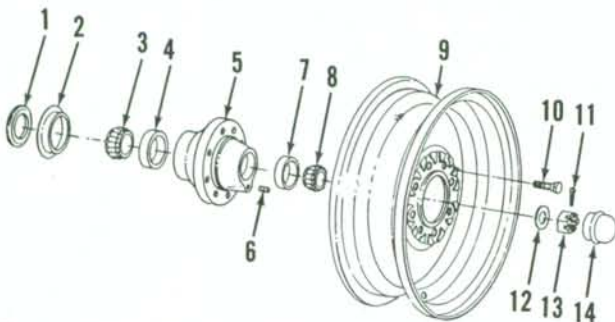

Fig. 1—Exploded view of front wheel hub, bearings and relative components.
**1. REMOVE AND REINSTALL.** To remove front wheel hub and bearings, remove cap (14—Fig. 1). Raise and support under axle extension. Remove cotter pin (11), slotted nut (13), washer (12) and bearing cone (8). Remove wheel and hub assembly, bearing cone (3) and oil seal (1) from spindle. Clean and inspect all parts. If wear ring (2) is scored, drive ring from hub and install new ring. Hub is slotted to aid in removal of bearing cups (4 and 7).